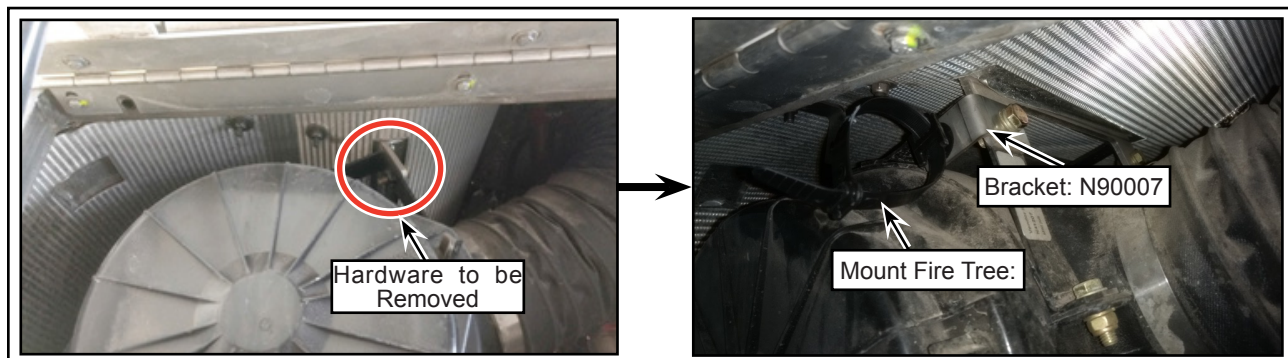

Figure 16 - Installation of New Bracket and Mount Fire
- 1.25. Remove and retain the hardware at location shown (see Figure 16).
- 1.26. Install the new bracket N90007 with the retained hardware and fix the mount fire tree to bracket (see Figure 16).